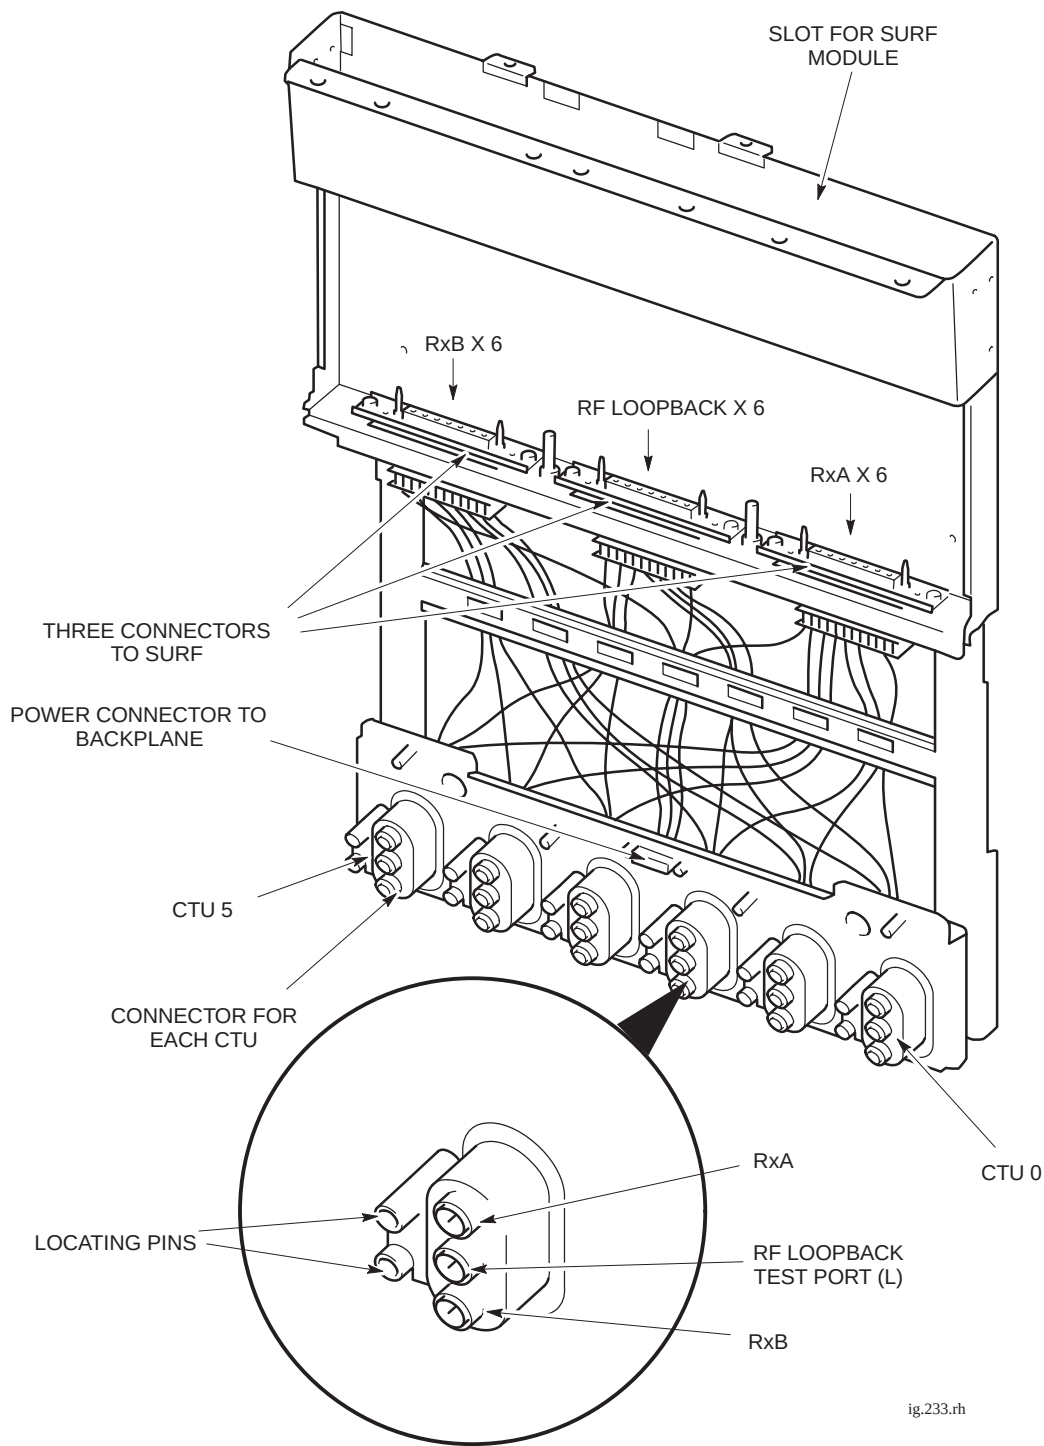

Figure 2-4 SURF harness with connectors indicated
- One RF connector to each CTU, consisting of three inputs, one each for RxA, RxB and RF loopback test, as shown in Figure 2-4. The RF connectors are free floating to ensure fitting of CTU modules.
Figure 2-4 shows the SURF harness with connectors indicated.